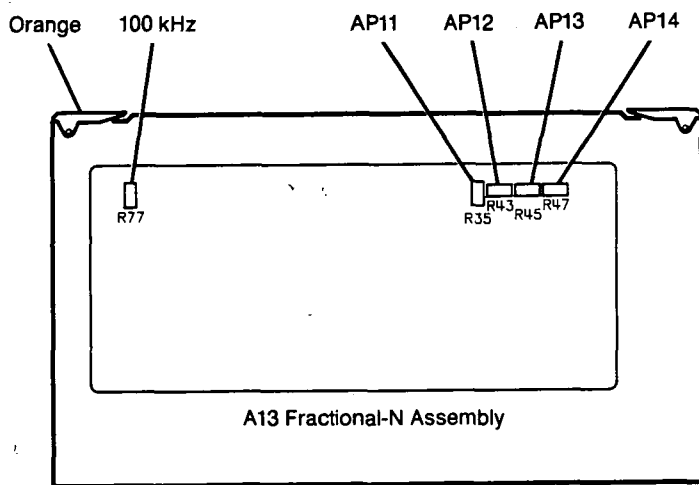

Figure 16. Location of API and 100kHz Adjustments
6. When prompted, adjust API1 (see Figure 16) for minimum signal amplitude. Press any key to continue.